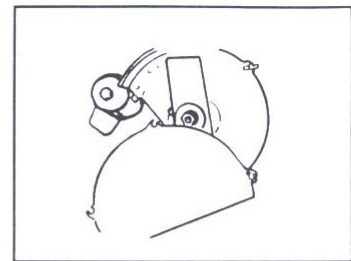

Fig. 9
1. To clean or replace the blade, loosen the 2 wing screws and swivel cover (Fig. 9).